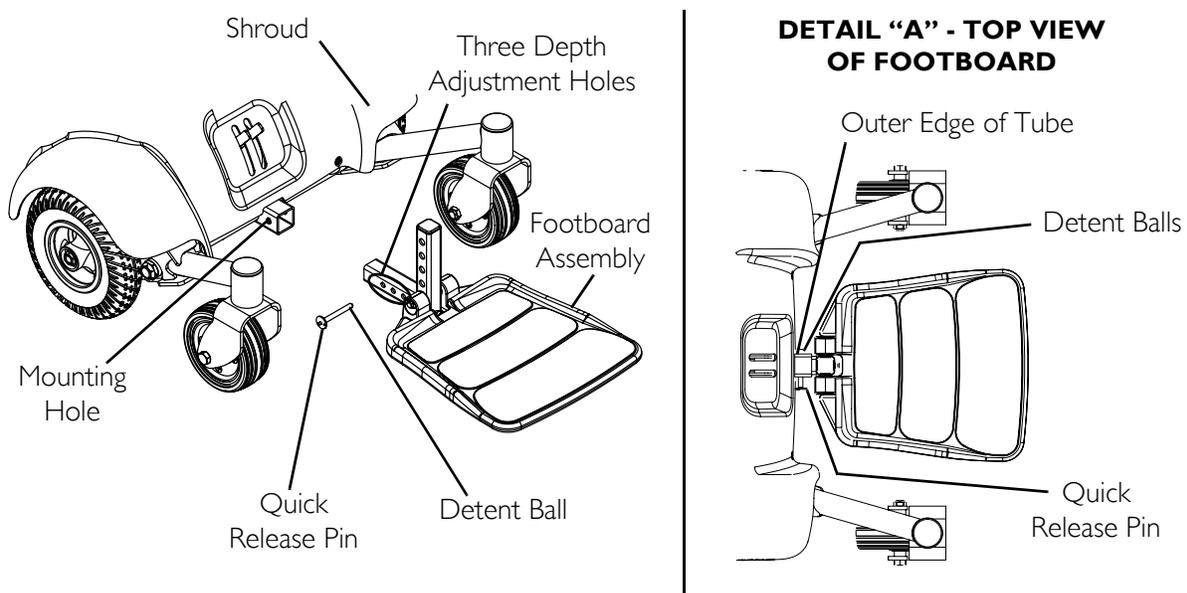

FIGURE 8.3 Adjusting the Footboard Assembly - Depth
NOTE: For this procedure, refer to FIGURE 8.3.
3. Install the quick release pin. Make sure the detent balls are engaged with the outer edge of the tube (Detail "A" of FIGURE 8.3).